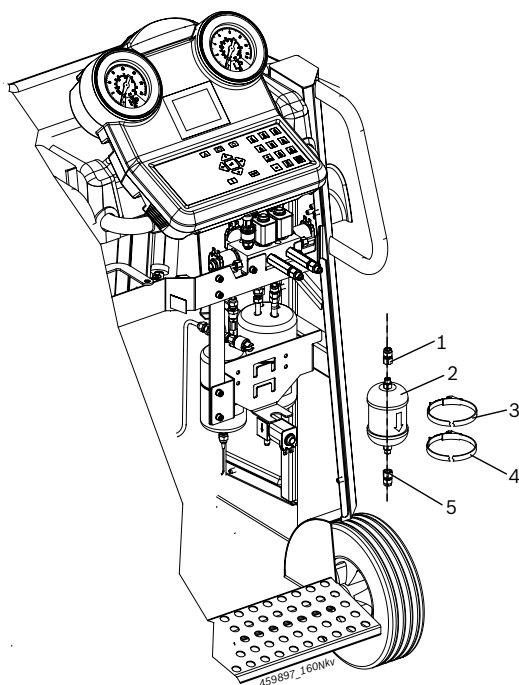

Fig. 9: Replacing the filter drier
7. Cut the cable ties (Fig. 9, Pos. 3, 4) that bind the filter drier to the bracket of the ACS 255.
8. Hold the filter drier firmly and loosen the fastening nuts (Fig. 9, Pos. 1, 5).
9. Detach the filter drier (Fig. 9, Pos. 2).